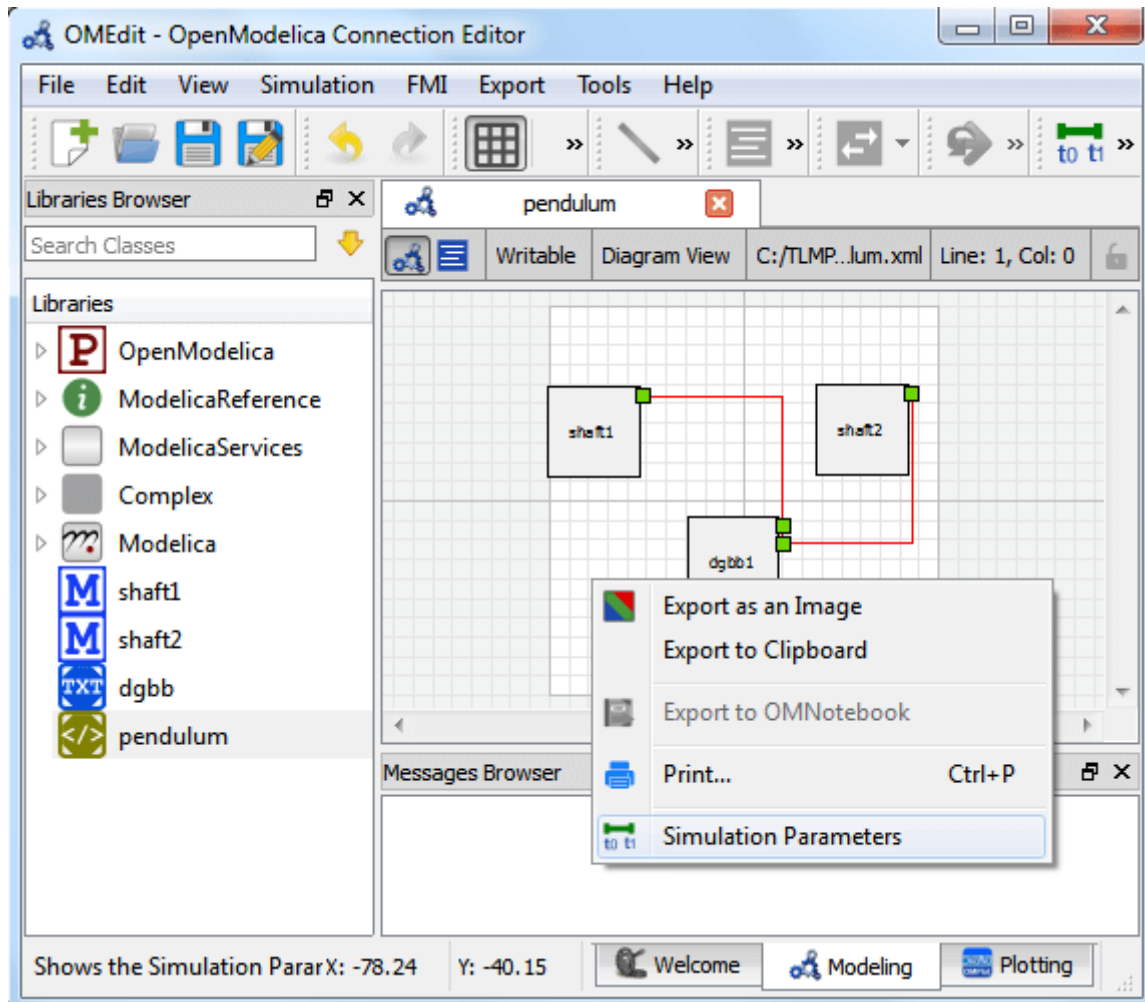

Figure 11.16: Changing Co-Simulation Parameters from the Popup Menu.
- Right click an empty location in the Diagram View of the composite model and choose **Simulation Parameters** from the popup menu (see Figure 11.16)